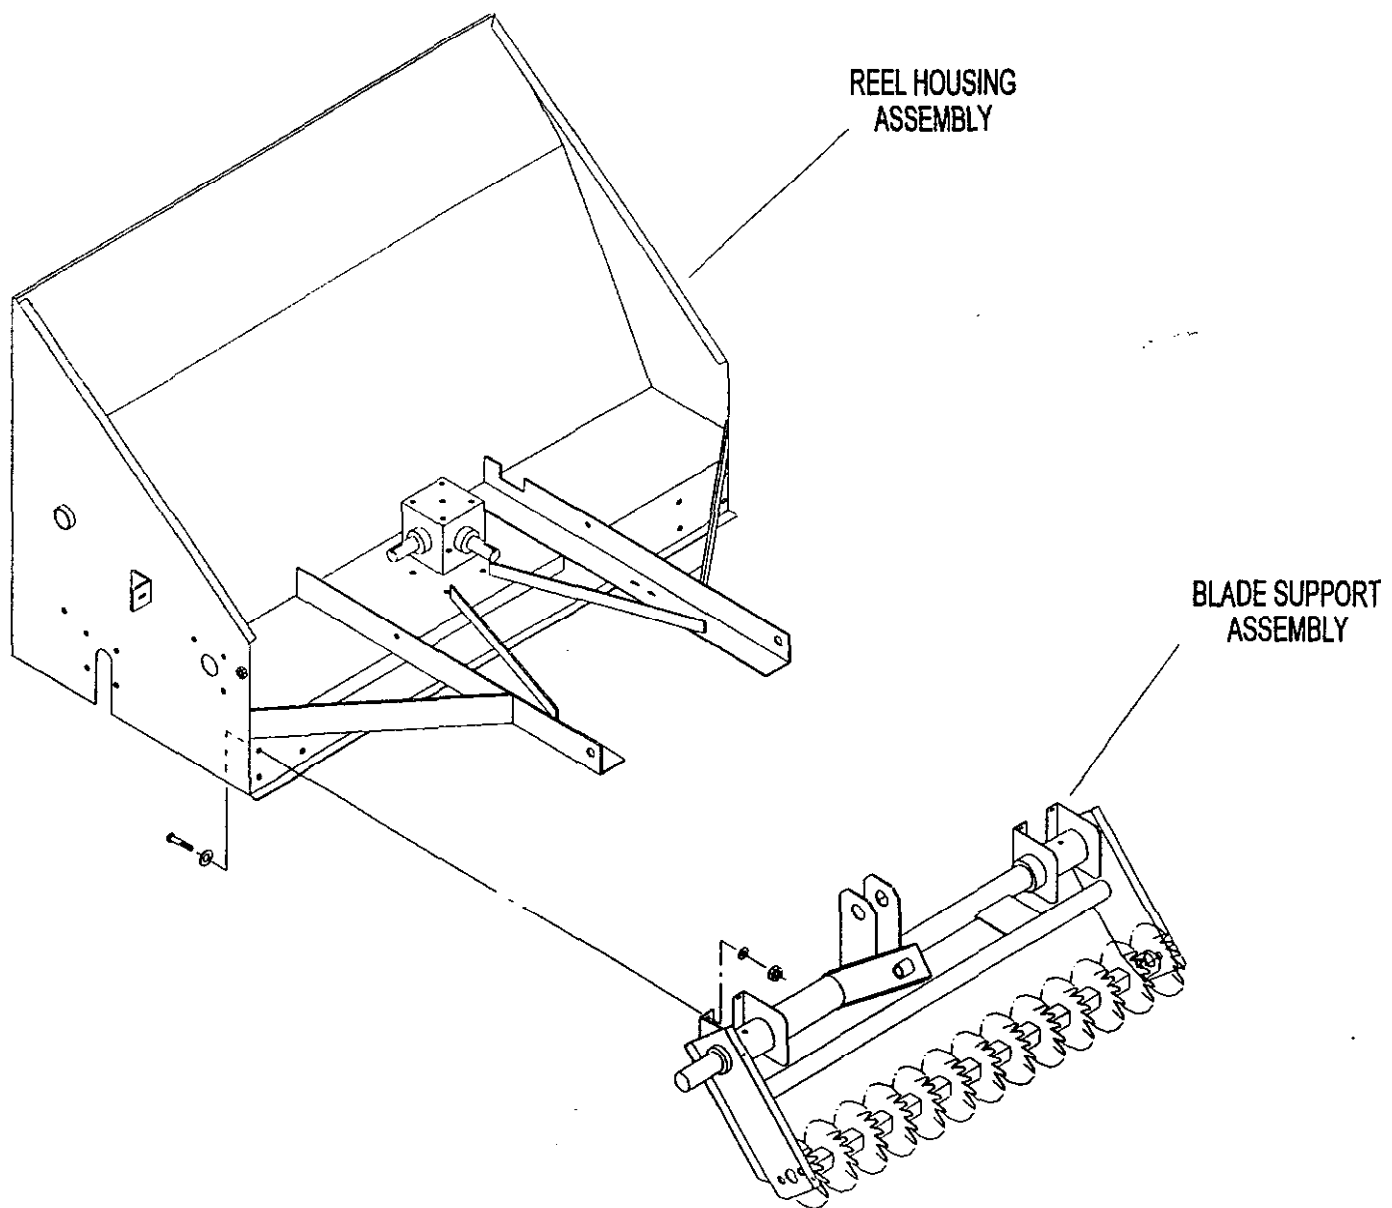

Figure 1
2. (FIG. 1) With two or more men, lift the Blade Support to the Reel Housing assembly. As you line up the holes of the reel housing assembly with the support brackets, insert a screwdriver or other rod in the hole in order to hold it while bolts are inserted from the inside of the reel housing assembly. Before tightening down the bolts, push the two mounting brackets of the blade support toward the ends and at the same time center the thatcher on the reel housing assembly. Tighten down the (8) bolts. There should be little back and forth play in the blade support when it is positioned properly.